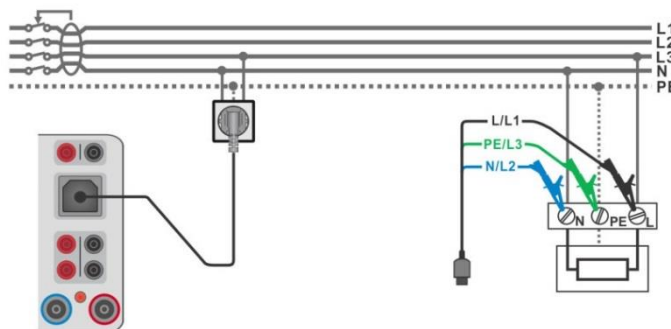

Figure 6.121: Connecting the Plug test cable or the 3-wire test lead
- Connect 3-wire test lead or Plug test cable to the object under test, see **Figure 6.121**.